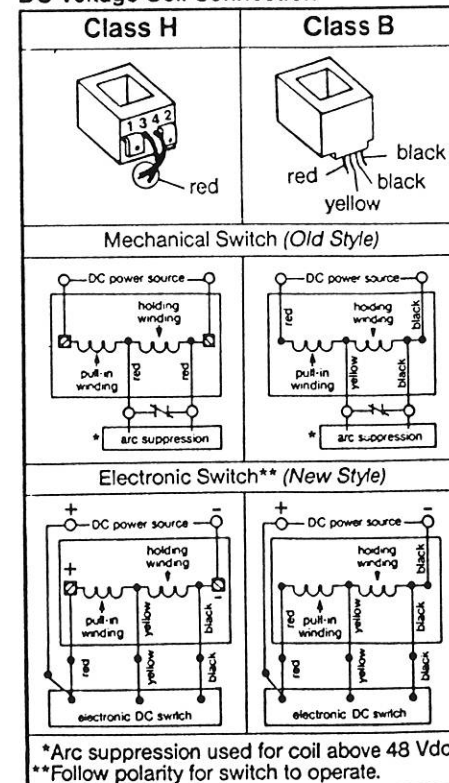

Figure 5
1. All Stearns DC coils are single voltage dual winding. A high current pull-in winding is initially energized to start the plunger movement, while a low current holding winding is momentarily shunted from the circuit until the plunger has pulled in. The older design incorporated a mechanical switch mounted to the solenoid frame and actuated by an arm mounted to the plunger to bring the holding winding into the circuit. In addition, coils over 48 Vdc have an arc suppression module in parallel with the switch contacts to protect the contacts from arc erosion and suppress EMI. The polarity of the incoming power supply is immaterial with the mechanical switch. The new electronic switch design incorporates an electronic timing circuit to allow the plunger to pull in, then electrically switch to the holding winding. Polarity of the power supply to the electronic switch and coil must be maintained. Refer to Figure 5 for proper wiring.